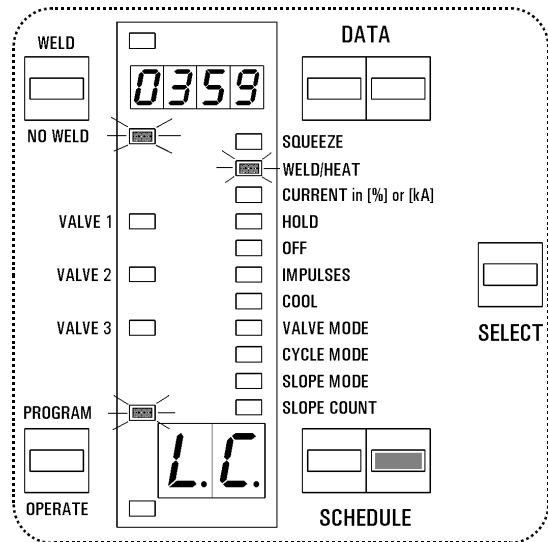

Figure 7.5 Program last count
5. Program the desired last count for this stepper, e.g. for stepper **A**, last count may be any number from **0000** to **9999**, as shown on Figure 7.5. In fact, this value will be first count at beginning of the weld sequence. This value will be reset or reprogrammed after resetting the stepper.